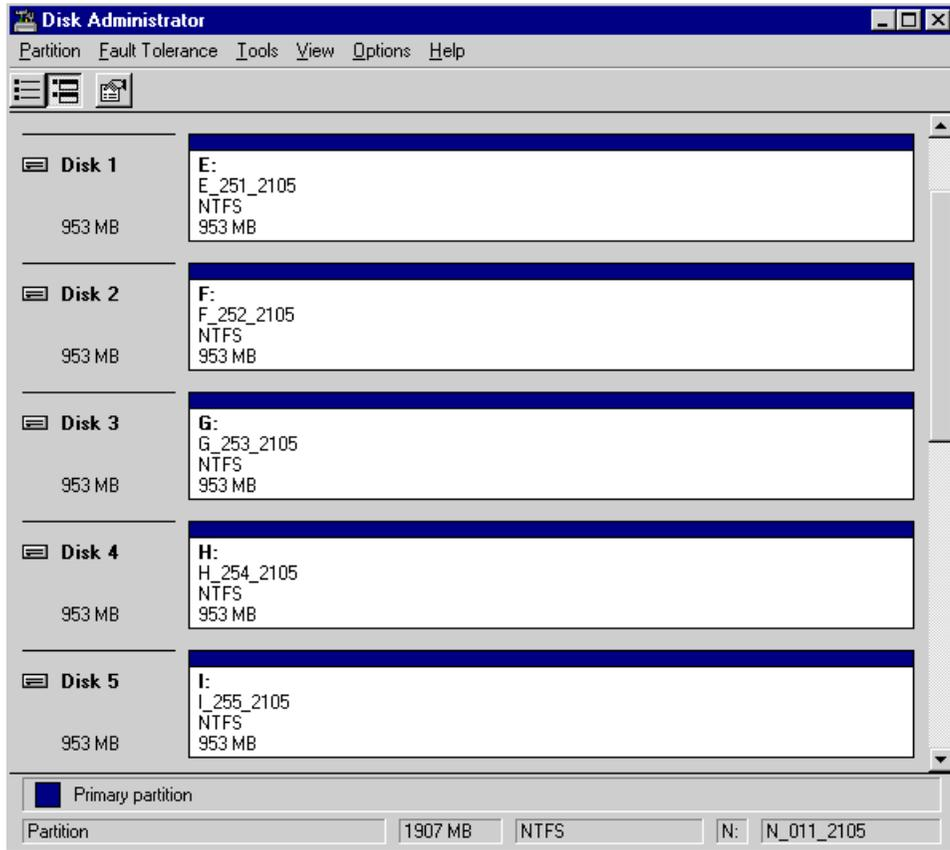

Figure 50. SDD command output showing two active SCSI paths
2. On the command prompt, type `datapath query adapter`. This shows the links available and their status (Figure 50).